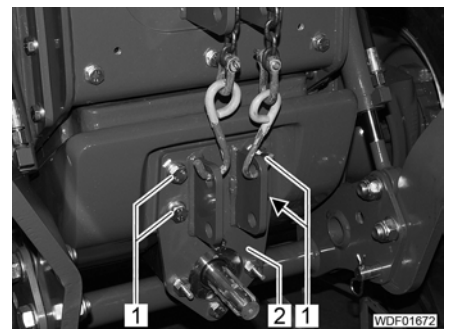

Fig. 299 Attaching the power take-off shaft
- Secure mounting plate (Fig. 299,2) using suitable hoist (e.g. crane) (Fig. 299).
- Unscrew 4 bolts (Fig. 299,1).